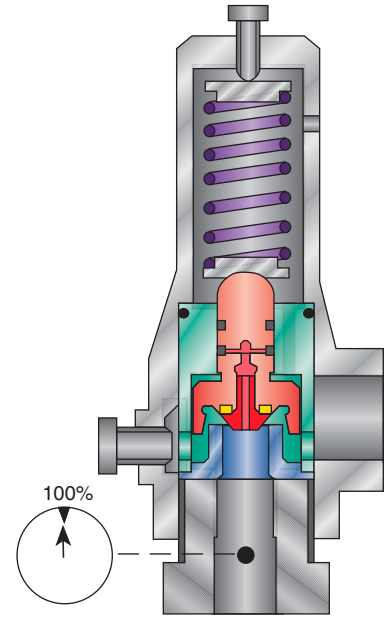

Figure 8
2. When the system pressure reaches set pressure, the valve will begin to open with a small steady flow of liquid (see Figure 8, page 49).